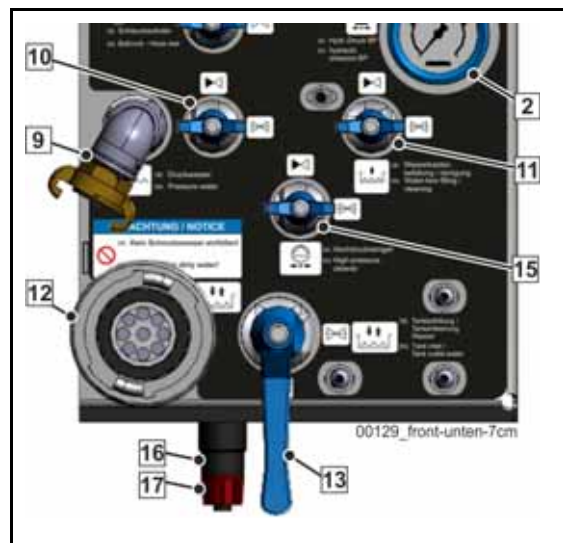

Fig. 575
- Lock the connection to the water case by switching the ball valve (15) (**Fig. 575**) on the supply control.